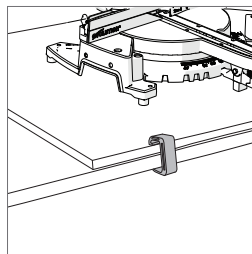

Fig. 3
- Use G-clamps to attach the mounting board to the work surface. **(Fig. 3)**